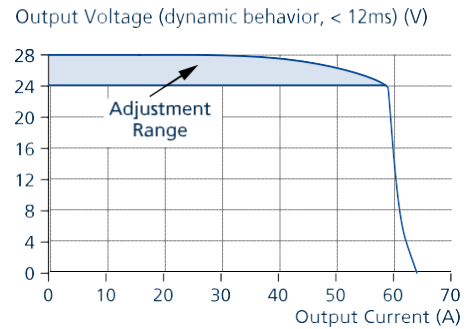

Fig. 6-2: Dynamic overcurrent capability, typ.
9.8 A	Intermittent current average value (R.M.S.) Load impedance 10 mOhm; see Fig. 6-2